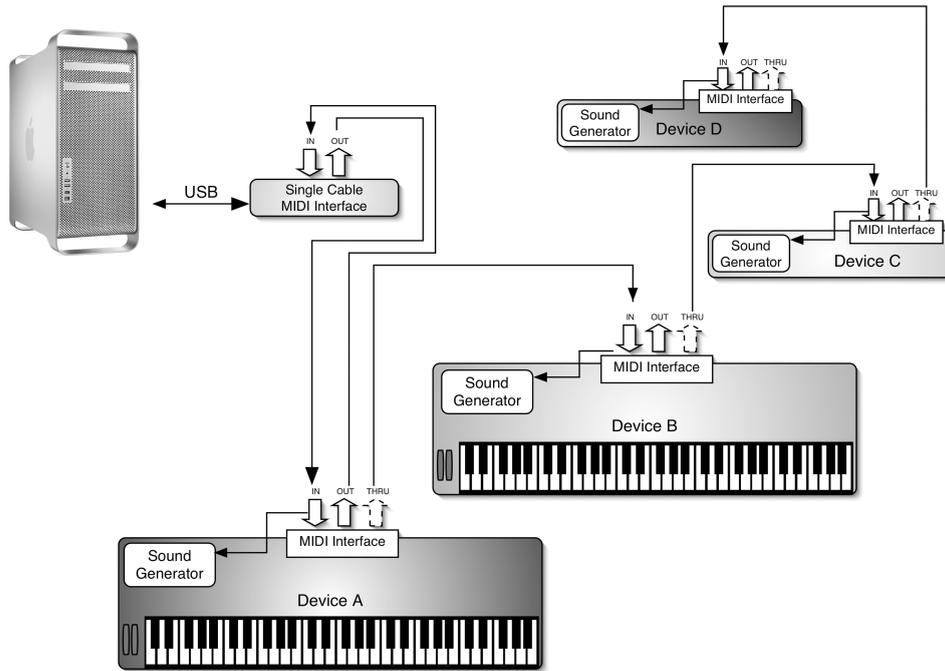

Figure 1.1 Daisy-chain setup (Courtesy of Apple Inc.).
Depending on the type of MIDI interface you get for your computer and sequencer, you can have two main MIDI configurations: daisy-chain (DC) or star network (SN). The DC setup is mainly used in very simple studio setups or live situations where a computer is (usually) not involved; it utilizes the THRU port to cascade more than two devices to the chain. In a DC configuration, the MIDI data generated by the controller (device A) are sent directly to device B through the OUT port. The same data are then sent to the sound generator of device B and passed to device C using the THRU port of device B, which sends out an exact copy of the MIDI data received from its IN port. The same happens between devices C and D. A variation of the original DC configuration is shown in Figure 1.1, where, in addition to the four devices of the previous example, a computer with a software sequencer, and a basic MIDI interface (1 IN, 1 OUT) are added.